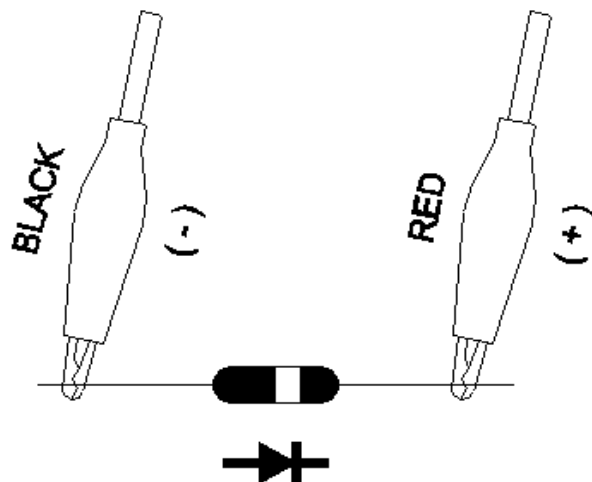

Fig. 3
- b. When connected as shown in Fig. 3, a reverse check on the diode is made. If the diode under test is good, " 1 " will be displayed. If the diode under test is defective, ".000" or other numbers will be displayed. Proper diode testing should include both steps a. and b. above.